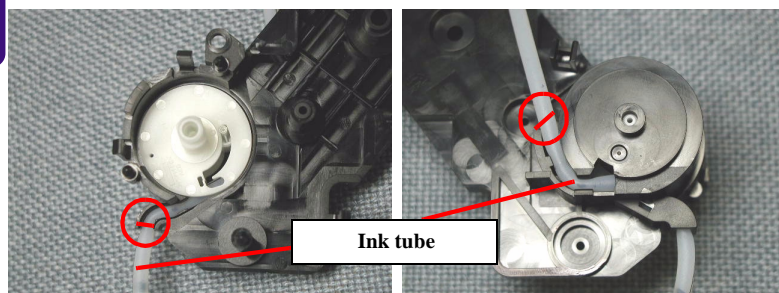

Figure 4-62. Marking position on the Ink tube
- Make sure to set the marking position of the ink tube to the suitable position of the Pump frame. (Refer to Figure 4-62)